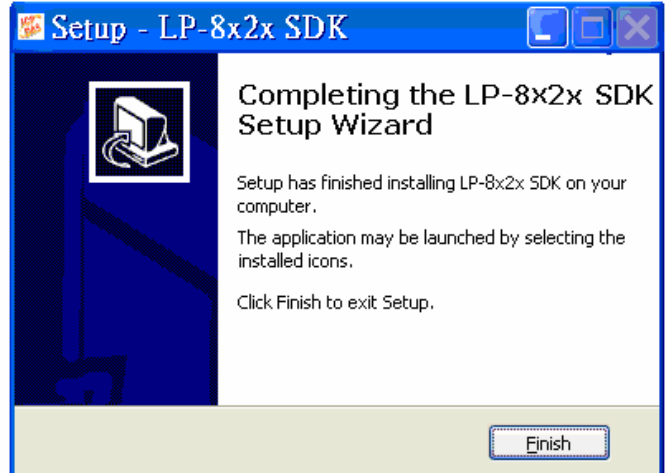

Fig. 2-13
6. Once the software has been successfully installed, click the “Finish” button to complete the development toolkit installation, refer to Fig. 2-13.